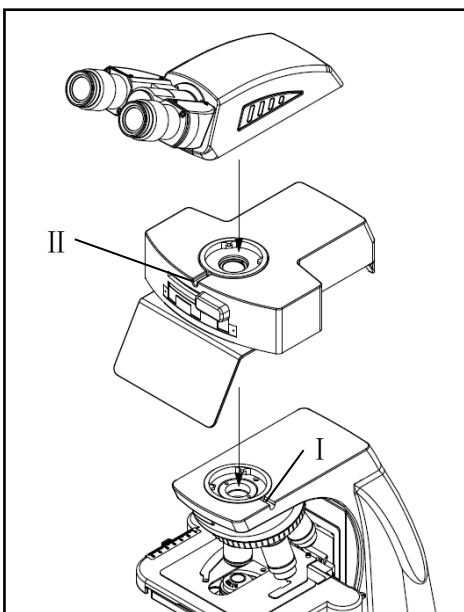

Fig.32
- ⊙ Use mask ② to prevent ultraviolet light from damaging the retina.
- ⊙ The power cord ③ behind the fluorescent set is connected to the USB interface ④ on the back of microscope, which is powered by the microscope.
6.2 Installing (Fig.32)
1. Mount the fluorescent set according to the assembly path in Fig.32 into the round dovetail of the microscope and tighten the screw I ;